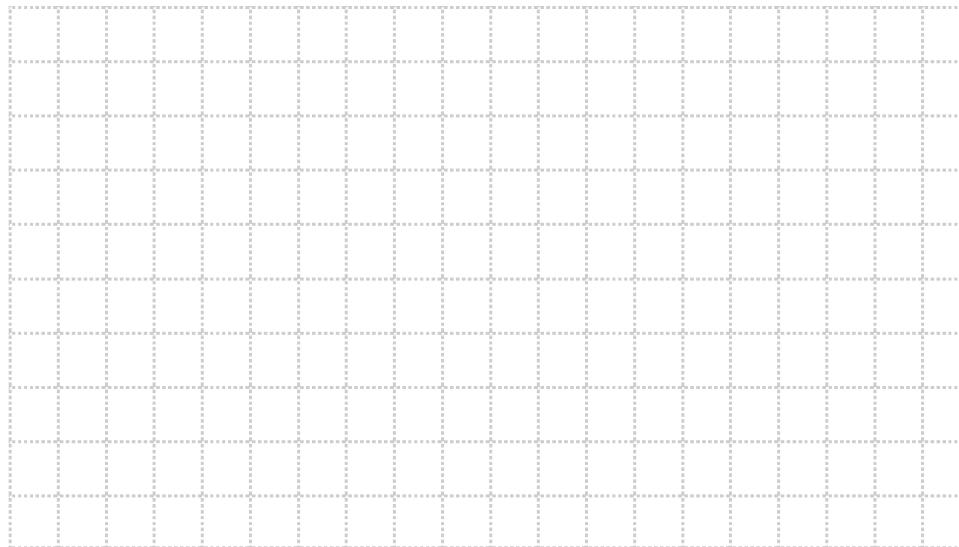

Figure 1-10. Flow rate versus speed curve.
14. Plot the flow rate versus speed ($30 \text{ Hz} \approx 1725 \text{ r/min}$) curve in Figure 1-10.